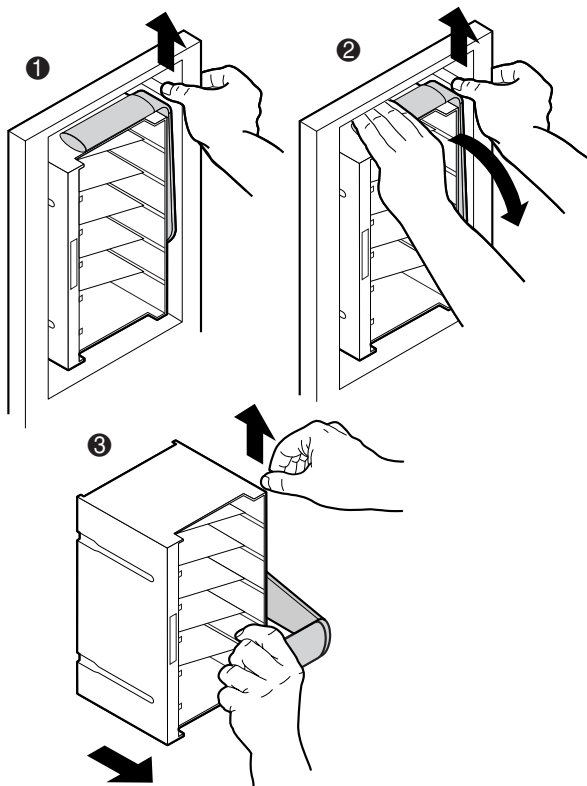

Figure 2-17: Removing a load pack (6-cartridge magazine)
1. Release the handle on the load pack (❶ Figure 2-17).
2. While holding the handle release, pull the load pack handle down (❷ Figure 2-17).
3. While holding the handle release, remove the load pack (❸ Figure 2-17).